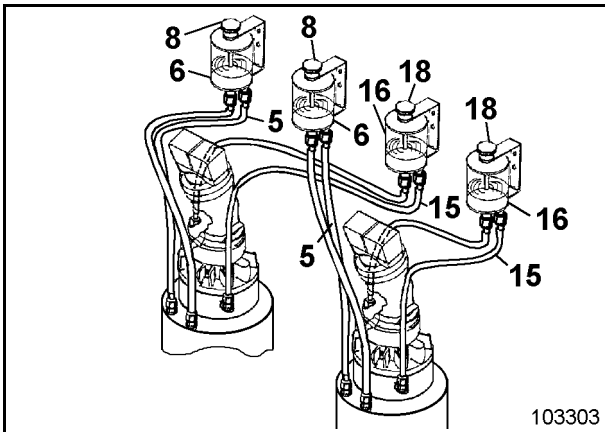
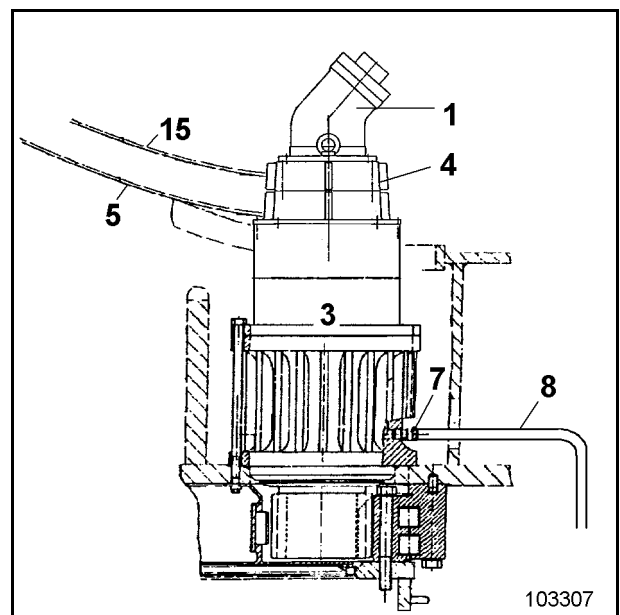

Fig. 3-109:
Fig. 3-110:
- Check the oil level visually at expansion tanks (6, Fig. 3-109:).
Hose (5, Fig. 3-109:and Fig. 3-111:) connects the gearbox (3, Fig. 3-111:) with the expansion tank (6, Fig. 3-109:).
- Check the oil level visually at expansion tanks (16, Fig. 3-109:).
Hose (15, Fig. 3-109:and Fig. 3-110:) connects the brake chamber (4, Fig. 3-110:) with the expansion tank (16, Fig. 3-109:).